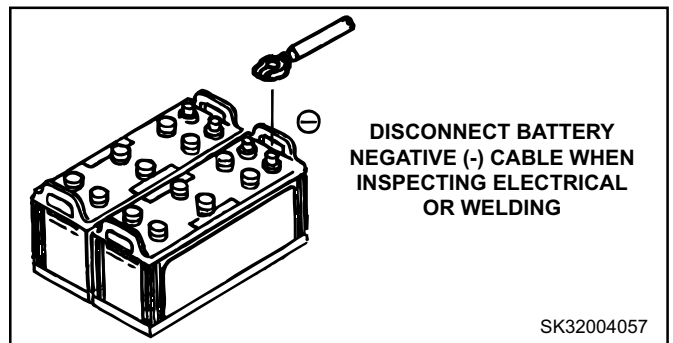

FIGURE 4.21B
**DISCONNECT BATTERIES BEFORE WELDING ON THIS MACHINE. SEE FIGURE 4.21B. CONNECT WELDER GROUND CABLE WITHIN 1M (3'-3") AWAY FROM AREA TO BE WELDED.**